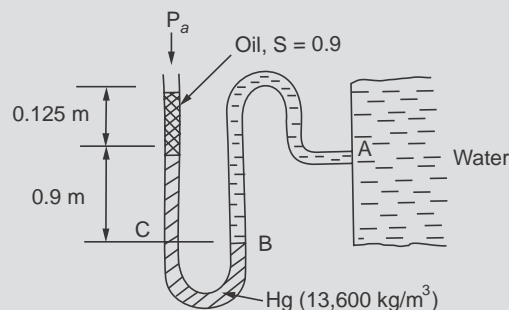

Figure Ex. 2.6
**Example 2.6.** A manometer is fitted as shown in Fig. Ex. 2.6. Determine the pressure at point A.